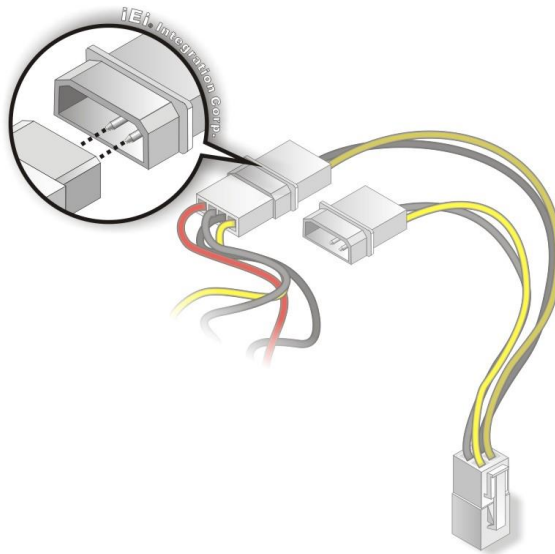

Figure 4-9: Connect Power Cable to Power Supply
Step 3: Connect power cable to power supply. Connect one of the 4-pin (1x4) Molex type power cable connectors to an AT power supply. See **Figure 4-9**